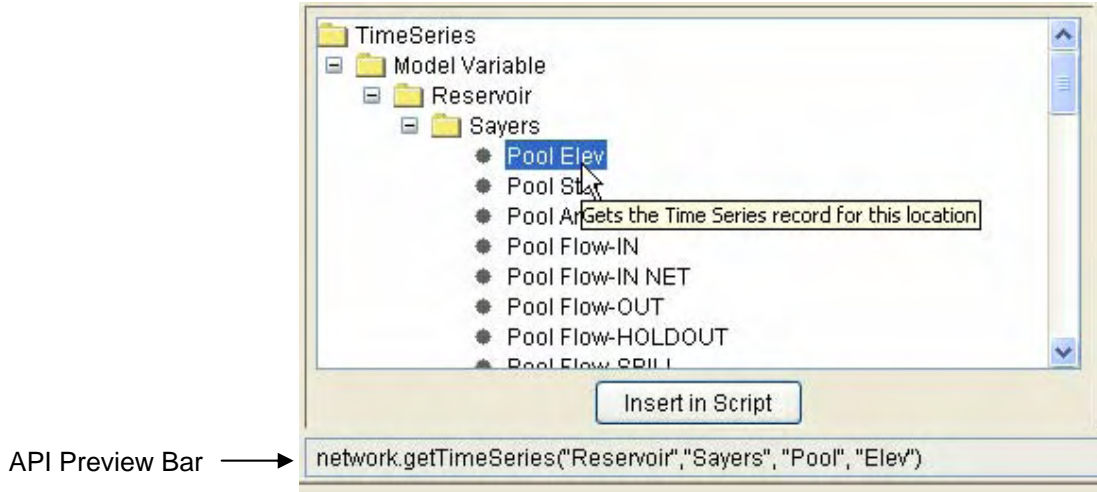

Figure 11.59 Scripted Rule Editor – API Pane and Preview Bar
- The API preview bar at the bottom of the API pane (Figure 11.59) shows the script text that would be pasted into the Editor pane.
- Arguments given as literals (i.e., actual numbers, or strings enclosed by “ ”) are already complete and require no additional user input. The text inserted from items under the Time Series folder typically fall into this category; therefore, you do not need to modify the argument list. For example, see the API Preview Bar in Figure 11.59 for API text that can be inserted directly into the script without requiring any user editing.